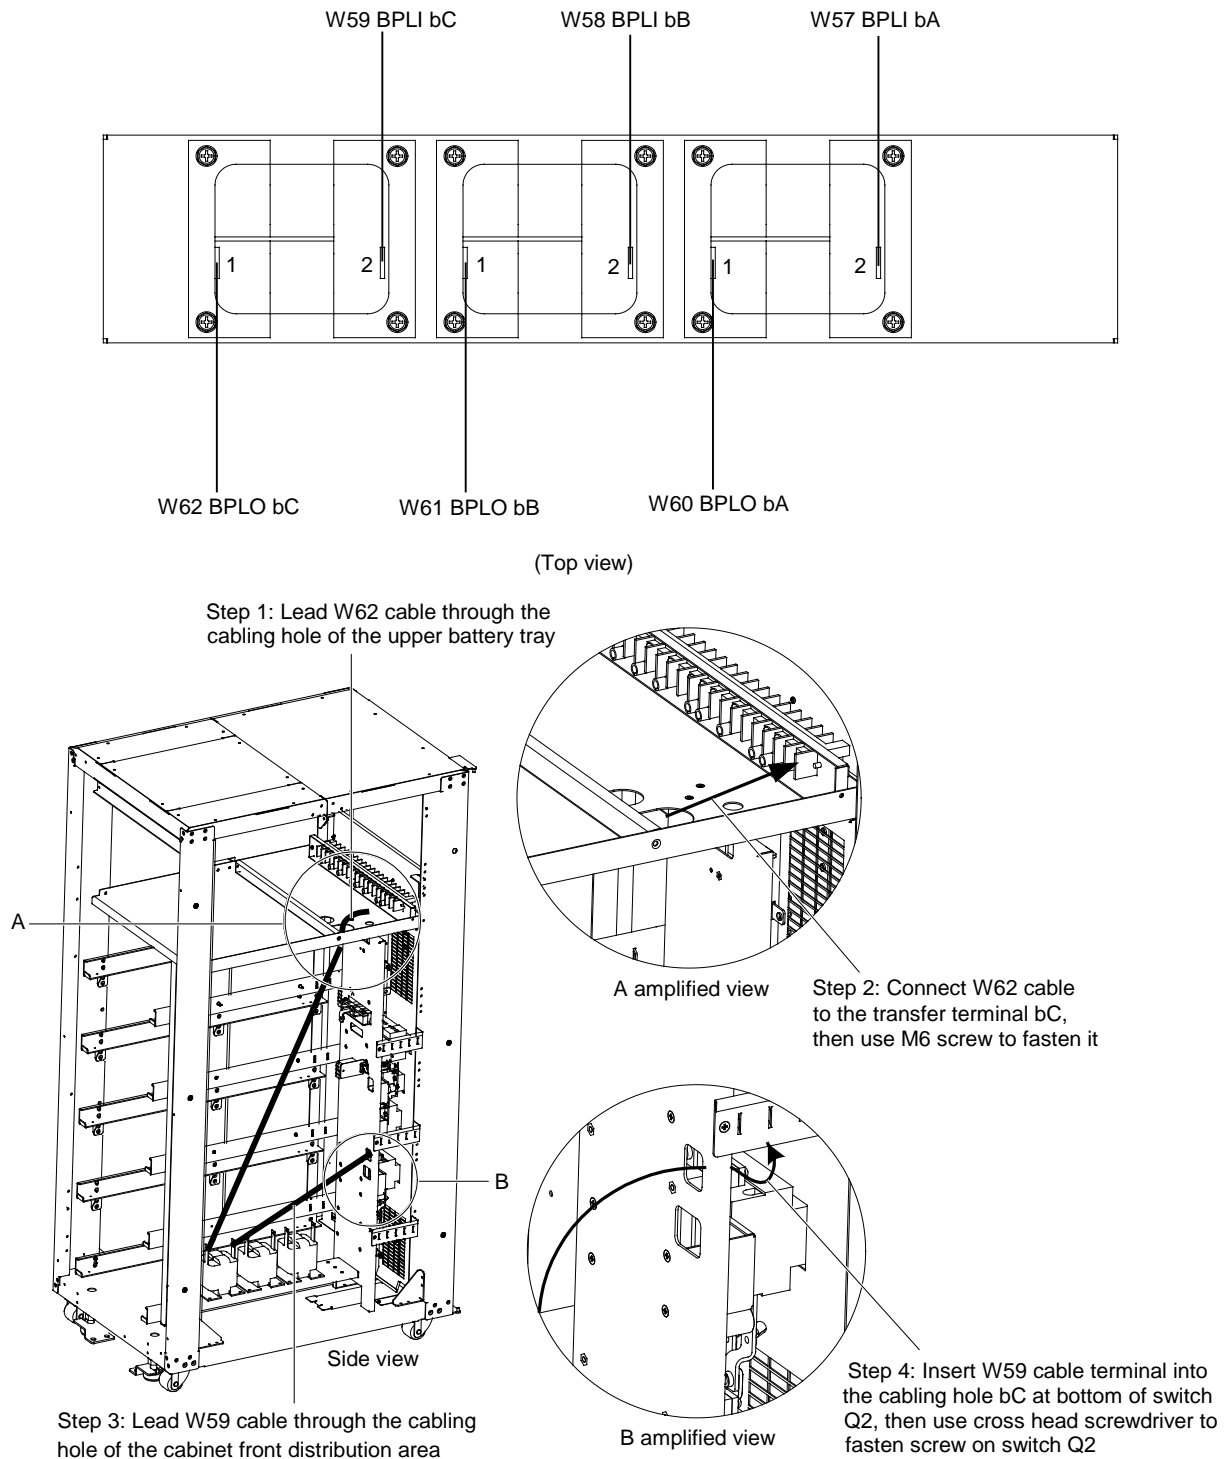

Figure 8-3 Connection of inductor 1
1) First respectively connect one end of W62 and W59 to terminal1 and terminal 2 of inductor 1, and use the M6 × 16 sems screws, M6 flat washers and nuts to fasten the terminals. The torque value is 4.8N.m. Then respectively connect the other end of W62 and W59 to the transfer terminal bC in UPS cabinet and the corresponding cabling hole Q2-6 of bypass input switch Q2. See Figure 8-3 for details.